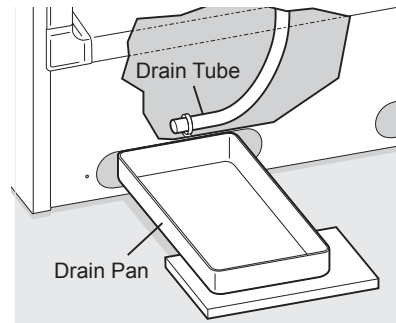

Figure 1B
- To access external drain, remove the two screws from the base panel. Locate the drain (see figure 1B or 1C).
- For figure 1B the drain hose is attached to the cabinet above the oval hole.